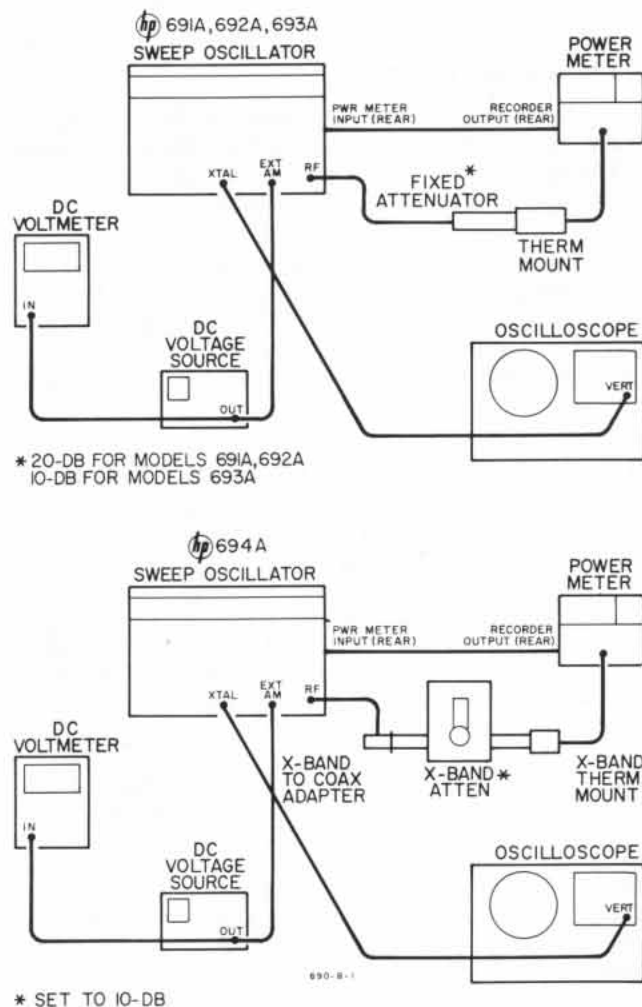

Figure 5-4. Setup for Testing Power Meter Leveling and External AM
5-30. Connect the test equipment as shown in Figure 5-4 without the DC Voltage Source, and proceed as follows:
- b. Set Power Meter RANGE (MW) selector to 1 MW range for the Models 691A and 692A, to 3 MW range for the Models 693A and 694A. With Sweep Oscillator LINE switch at STANDBY, zero the Power Meter.
- d. Measure the maximum leveled RF power output available from the Sweep Oscillator during a full frequency range sweep. Allowing for the attenuation of the pad shown in Figure 5-4, RF power indicated by the Power Meter must be as indicated below.
- a. Connect test equipment as shown in Figure 5-4 omitting connection to Oscilloscope.